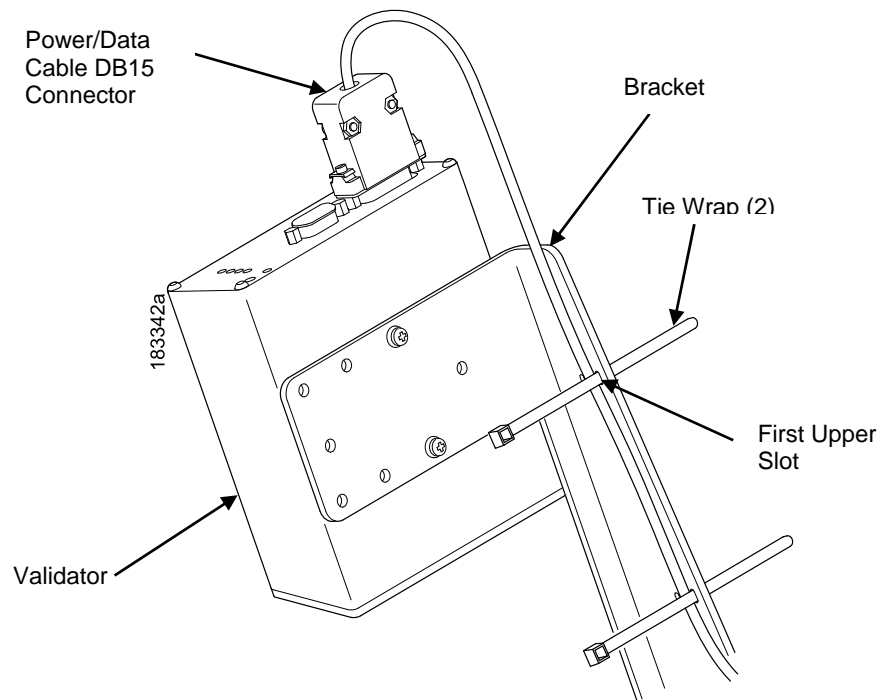

Figure 15 Attaching the Power/Data Cable
2. Route the power/data cable along the inside of the bracket, as shown in Figure 15.
3. Route a tie wrap from the inside of the bracket through the first upper slot as shown in Figure 15, keeping the power/data cable underneath the tie wrap.